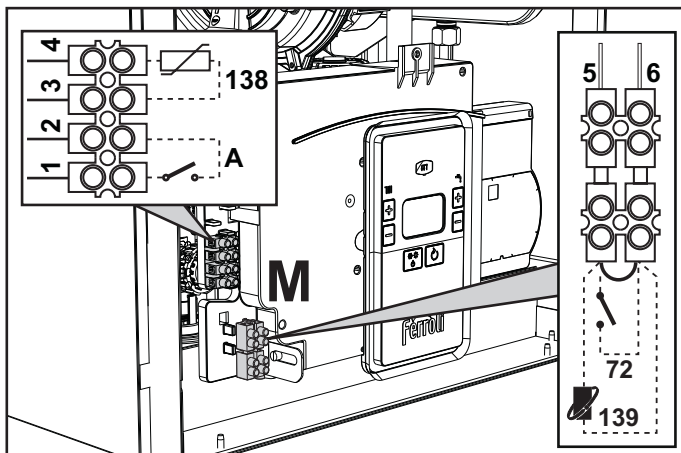
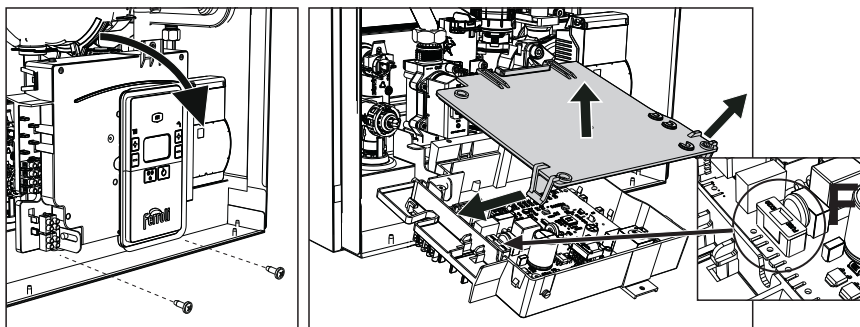

fig. 19
fig. 20
After removing the front panel (*** 'Opening the front panel' on page 281 ***) it is possible to access the terminal blocks (M) and the fuse (F) following the directions given below (fig. 19 and fig. 20). **The terminals indicated in fig. 20 must be with voltage-free contacts (not 230V).** The arrangement of the terminals for the various connections is also given in the wiring diagram in fig. 47.
ON/OFF (A fig. 20) configuration